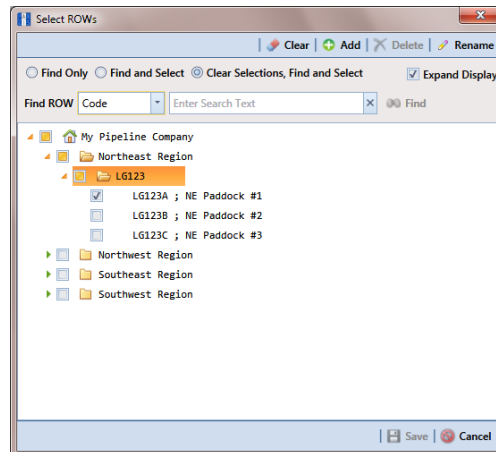

Figure 2-38. Select ROWs
- 1 Click the **Select ROWs** button  to open the *Select ROWs* window (Figure 2-38, page 74). Select one or more pipeline segments with facilities you want to work with, then click  **Save** to close the window.